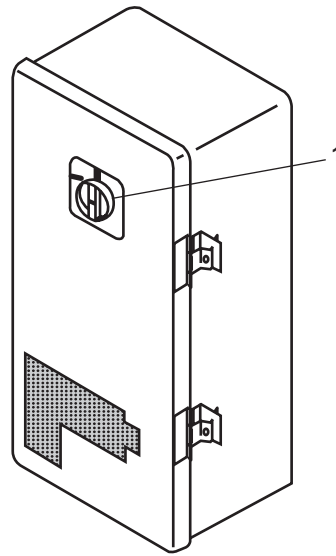

Figure 11. Reheater ON/OFF Switch
2. Position all reheater ON/OFF switches (figure 11, item 1) to ON.